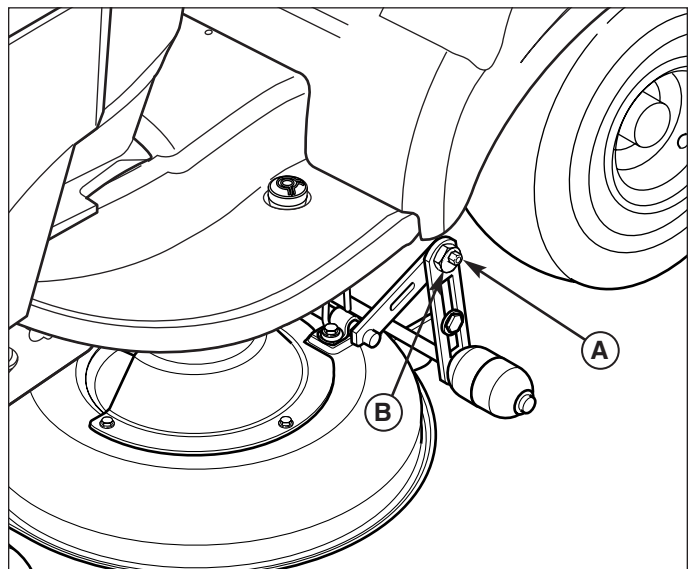

Figure 36. Leveling The Mower Side-to-Side
5. See Figure 36. Loosen the outside nut (A). Turn the eccentric nut (B) to raise or lower left-hand side of mower. When mower is level, hold the eccentric nut while tightening the outside nut.